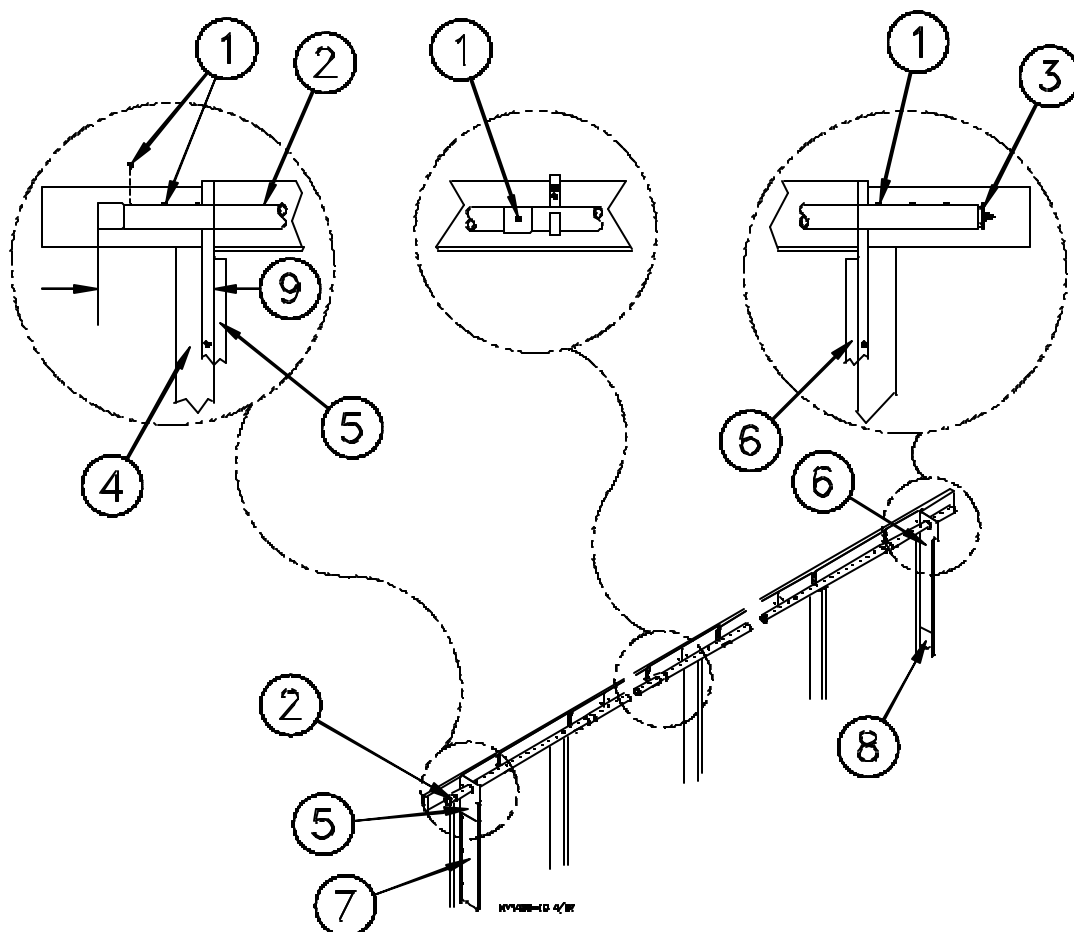

Figure 10. Distribution Pipe Installation
7. Insert a 2" Mechanical Gripper Plug in the end of the Distribution Pipe. See **Figure 10**.